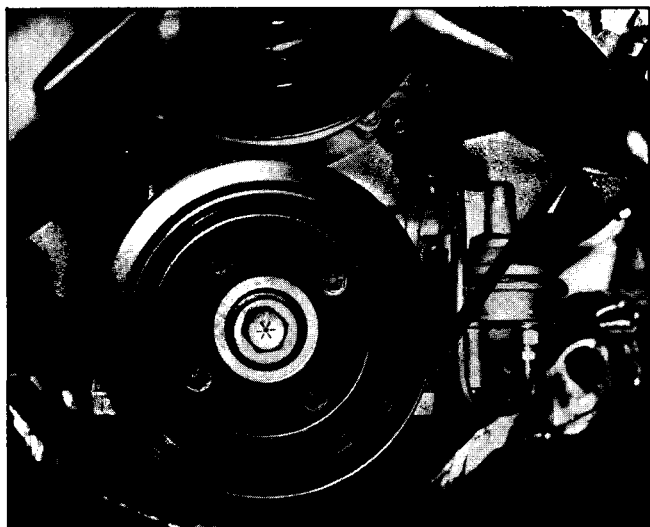

Fig. 6-122 Harmonic Balancer - Typical
2. On all but 307 engine, position fan so wide angles will be at top and bottom allowing access to balancer (Fig. 6-122).